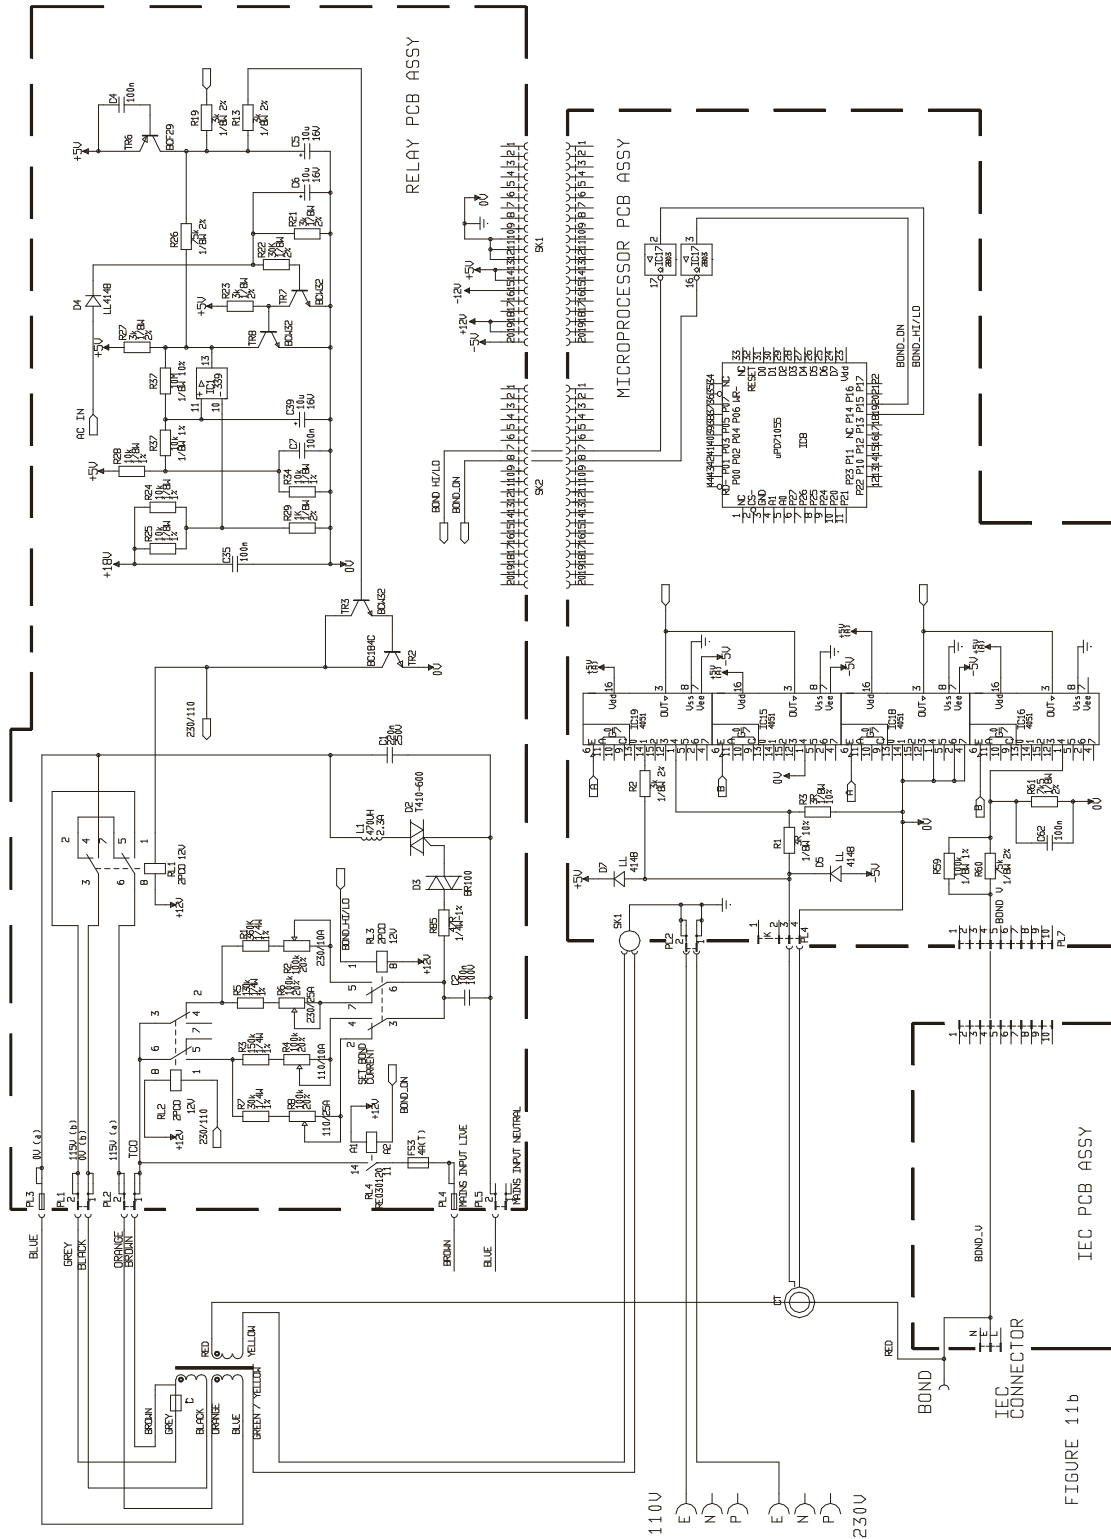

Figure 11b
Reference should be made to *figure 11b*. During a Bond Test a high current (ac) is supplied between the dedicated Earth Bond terminal and the Earth conductor of the relevant Appliance Test Socket. A short Bond Test Lead is connected to the Earth Bond Terminal and the free end, which is terminated in a crocodile clip is attached to any required piece of the appliance metalwork. The actual test current is configured for 10 Amps or 25 Amps. During the test a measurement of current flow and applied voltage is made. Using these parameters a value of Earth Bond Resistance is calculated.
The PAT4DVF Live mains supply is connected via PL4 (Relay PCB) to fuse FS3. Triac D2 controls the live supply current fed to the Bond Test Transformer primary via single pole relay RL4 the contacts of which are closed during a Bond Test. The Neutral supply is routed via PL5. A split primary is employed allowing voltage tap changing for 110 Volt or 230-Volt operation. Relay RL1 performs the necessary Series / Parallel transformation, using the automatic voltage change over circuit operating transistors TR2 & TR3. This changeover circuit was described in section 8.1 above. The Bond Test Transformer is a voltage "step down" transformer delivering approximately 10 Volts open circuit or > 25 Amps short-circuit across the secondary winding. The secondary as shown in *figure 11b*. is connected between the Bond test terminal and the main Earth point. A current transformer built into the loom monitors output current.
Bond Test Current is measured using a Current Transformer (CT) through which one connection to the secondary of the Bond Transformer is passed. The CT signal is transferred to the PAT4DVF "Microprocessor" via PL4 (red wires) to Multiplexer channel (01), which as shown on *figure 11b*. is connected to IC19 pin 1. Resistors R1 and R3 form the CT terminating load converting the current produced by the CT to a voltage
Voltage measurement is made using a three terminal method at the Bond Test Terminal. A voltage "sense" wire is attached at the terminal and routed via PL7 to the "Microprocessor PCB". The network comprising R59-R61 and capacitor C62 form a voltage divider and low pass filter. The output from this filter is transferred to the to. Multiplexer channel (12) being the destination of this signal, which as shown on *figure 11b*. is connected to IC16 pin 1.